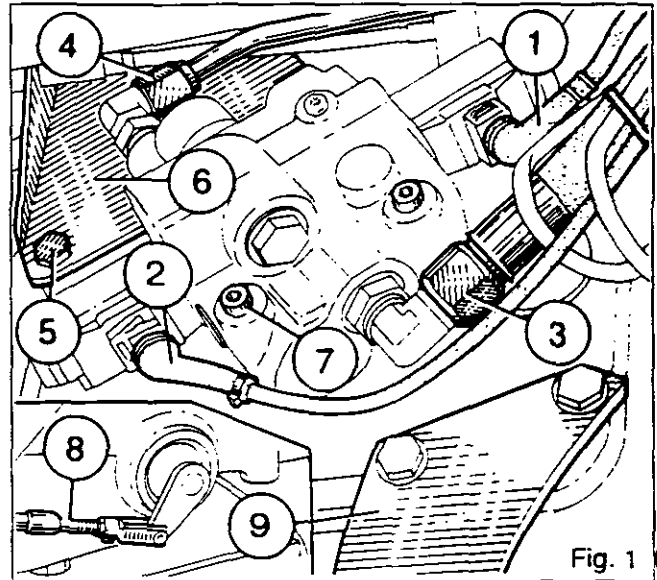

Fig. 1
3. Mark and disconnect the cables of the lift (1) and lowering (2) solenoid (Fig. 1).
4. Disconnect and block the lift valve supply hose (3) and the ram supply tube (4) (Fig. 1).
**Note: On tractors with a low cab, remove the bolts (7) and take away the valve to facilitate access to the upper bolts (5) of the cover.**
5. Remove the bolts (5) and take away the support (6) of the of the hand brake control.
**Note: On tractors equipped with GSPTO, disconnect the control (8) and remove the support (9) (Fig. 1).**
12. Mount the handbrake control support (6), the GSPTO support (9) (if fitted) (Fig. 1). Remove the guide studs. Fit and tighten the bolts to a torque of 72 - 96 Nm. Connect the controls.
**Fit and tighten the bolts (7) to a torque of 25 - 35 Nm (Fig. 1).**